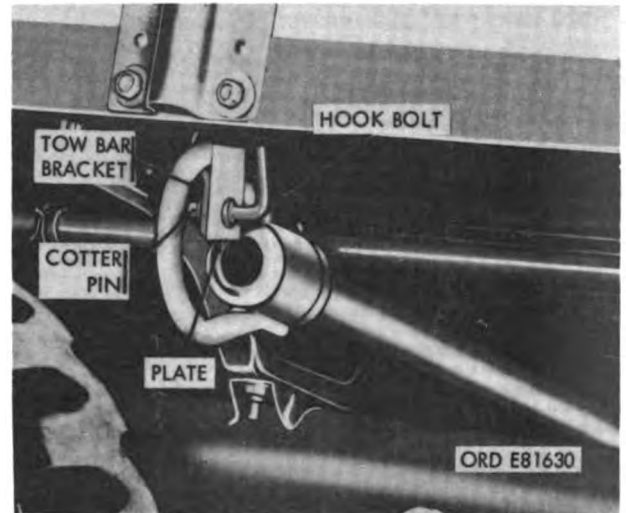

Figure 2-98. Tow bar bracket and support—exploded view.
**2-81. Tow Bar Bracket (Figure 2-98)**